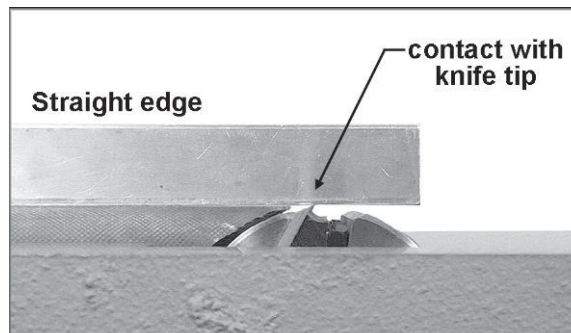

Figure 24
5. Lower the outfeed table until the straight edge contacts the knife, as shown in Figure 24. Using the drive belt, rock the cutterhead slightly to make sure the apex of the knife is contacting the straight edge.